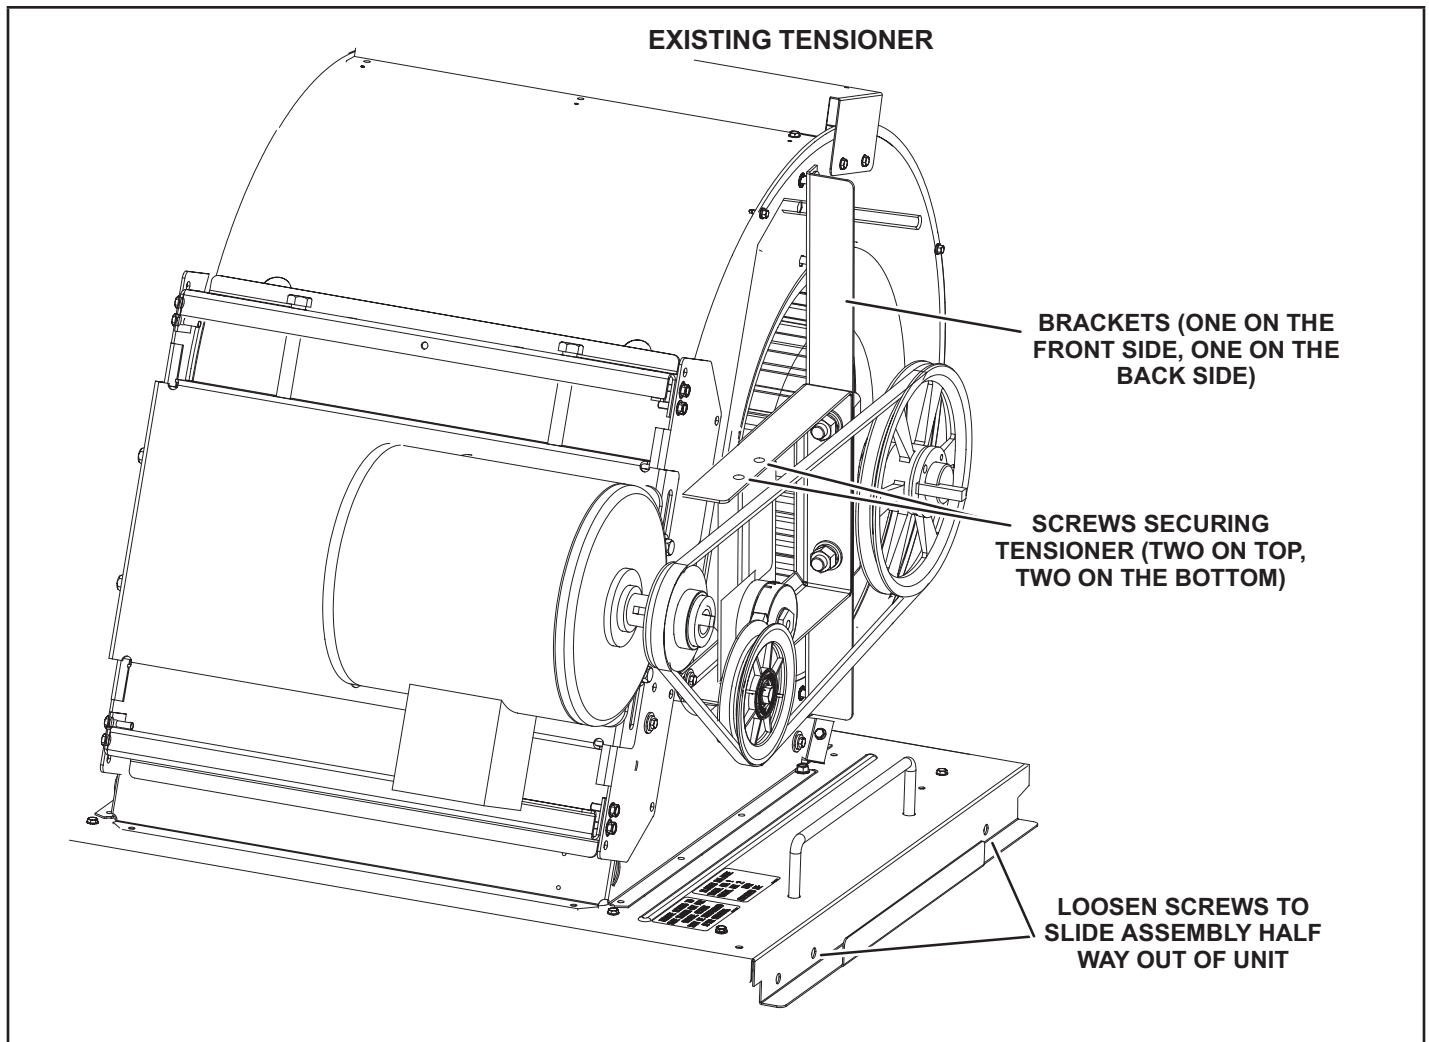
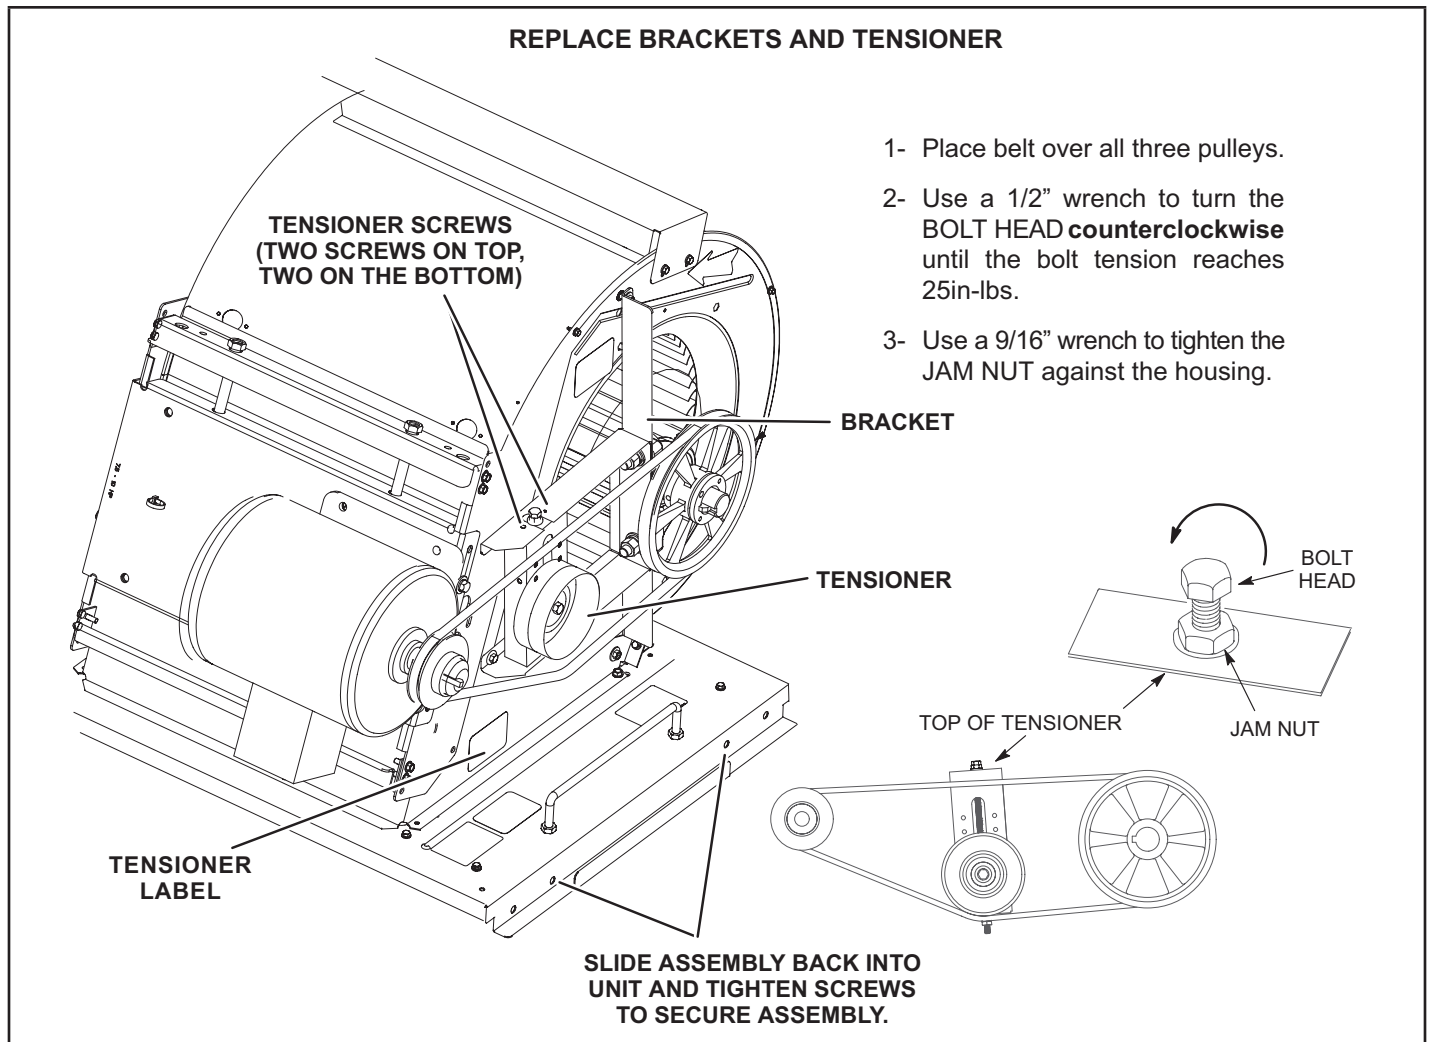

FIGURE 1
FIGURE 2
- 3 - Loosen screws securing the blower assembly sliding base. See figure 1. Slide the blower assembly half way out of the unit.
- 4 - Remove existing tensioner. See figure 1.
- 5 - *24B80 Only* - Remove front and back brackets. See figure 1. Install kit two kit brackets. See figure 2.
- 6 - Install tensioner provided in kit. See figure 2.
- 7 - Tighten belt tension as shown in figure 2.
- 9 - *24B80 Only* - Replace tensioner sticker with sticker provided in this kit. See figure 2 for sticker location.